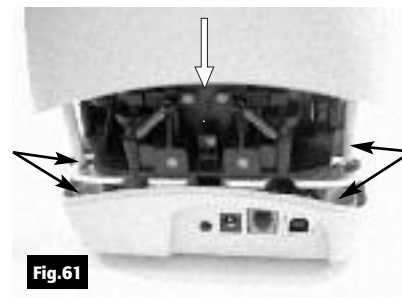

Fig.61
5. Insert the outer cover by aligning the two shafts with the two holes in the bottom cover of the unit (Fig.61). Push the cover down.